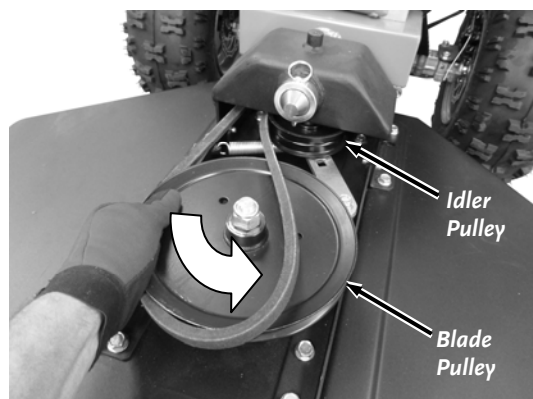

Figure 7
6. Start the Belt into the groove of the Deck Pulley and turn the Pulley as you guide the Belt around and into the Pulley groove (**Figure 7**).